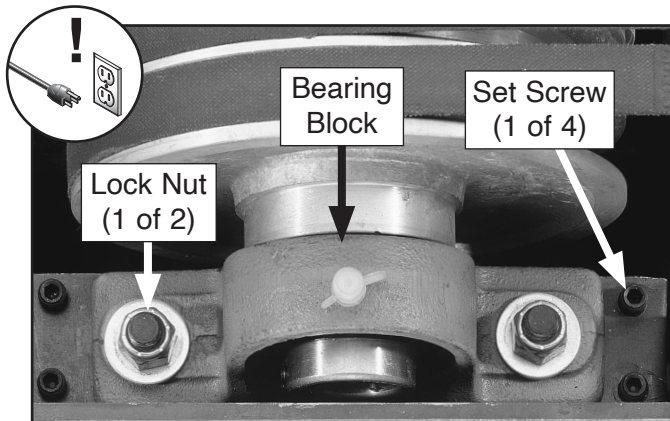

Figure 46. Bearing block components.
- Loosen lock nuts (see **Figure 46**) on bearing block on side of drum requiring adjustment.
- Raise or lower bearing block by rotating set screws (see **Figure 46** on **Page 46**). Turn very gradually— $\frac{1}{8}$ turn or less.